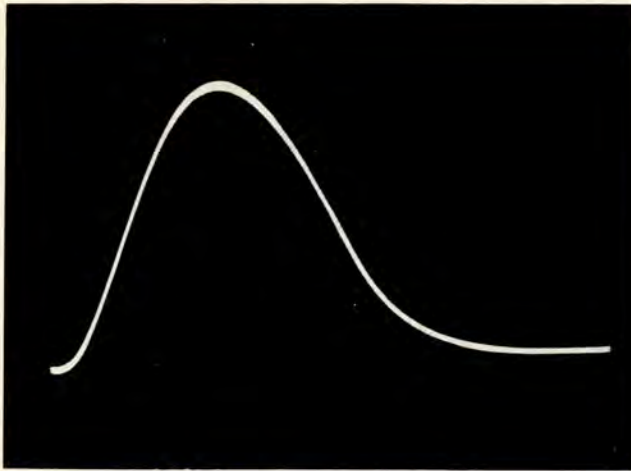

Figure 7-17. Modulator Pulse
c. BREAKDOWN OF CAPACITOR C201 IN MODULATOR CATHODE CIRCUIT. — If C201 (the capacitor in parallel with inductance L102 in the modulator cathode circuit) becomes shorted, the transmitted pulse will be distorted. The result of this defect is illustrated in figures 7-17 and 7-18. It may be continuous or intermittent.
(1) MONITORING OSCILLOSCOPE INDICATIONS. — The monitoring oscilloscope indications for the PULSE FROM MOD. and OUTPUT PA positions of the MONITORED CIRCUIT switch (S116) are illustrated in figures 7-17 and 7-18, respectively. In this case it will be noted that the modulator pulse tends to start more abruptly than the normal pulse illustrated in figure 7-7, this section. In addition, the same lengthening of the trailing edge with a lack of negative component occurs, similar to that described in